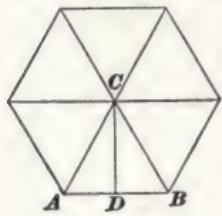

FIG. 52.
**EXAMPLE 2.**—Find the cubical contents of a hexagonal prism, Fig. 52, 12 inches long, each edge of the base being 1 inch long.
3. What is the area of the entire surface of the hexagonal prism whose base is shown in Fig. 52? Ans. 77.196 sq. in.